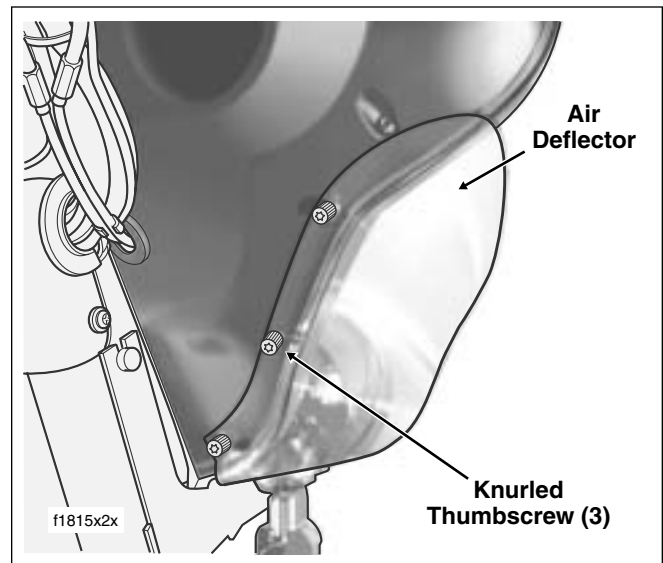

Figure 2-170. Remove/Install Air Deflectors
1. Remove three knurled thumbscrews to release air deflector at side of inner fairing. See Figure 2-170.
2. Repeat step to install air deflector on opposite side of motorcycle. See Figure 2-170.